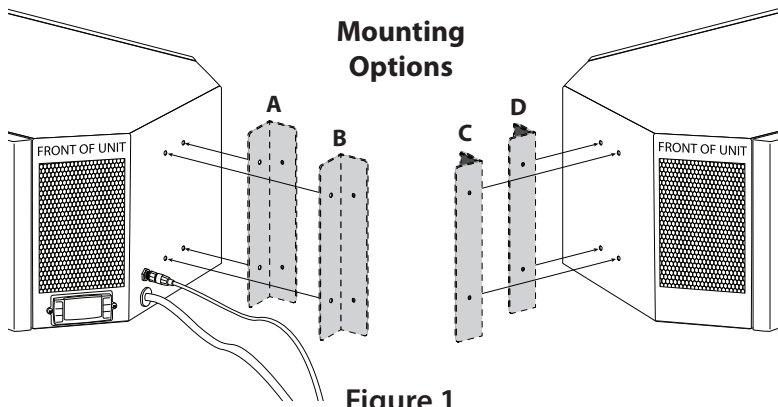
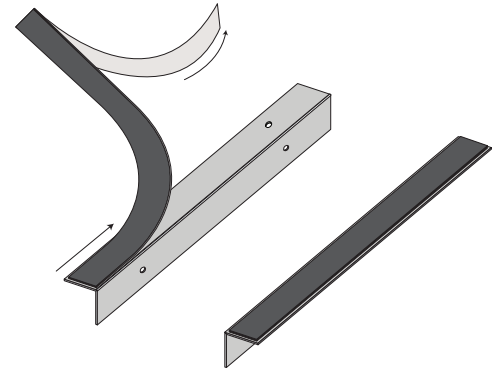

Figure 1
Figure 2
Determine which of the four bracket mounting options (displayed in Figure 1) will be the most suitable for the desired position of the Cooling Unit.
If the desired option is (A) or (B) displayed in (Figure 1), the Foam Tape should be placed as shown in (Figure 2).
If the desired option is (C) or (D) displayed in (Figure 1), the Foam Tape should be placed as shown in (Figure 3).